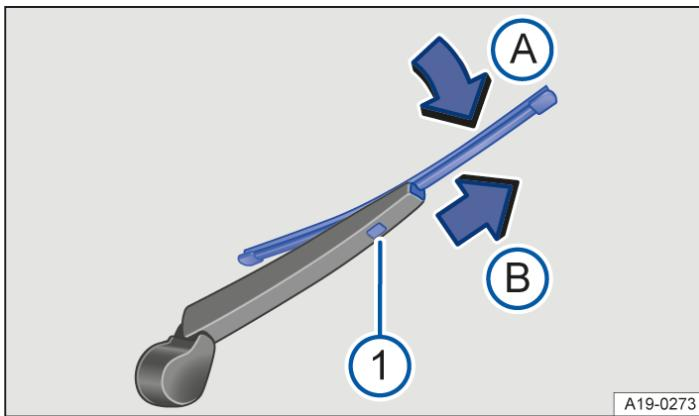

Fig. 2 Changing the wiper blade for the rear window.
3. Press and hold the release button → *Fig. 2* 1.
4. Tilt the wiper blade in the direction of the wiper arm → *Fig. 2* A and pull it off in the direction of the arrow B at the same time. You may need to use some force to do this.
5. Insert a new wiper blade with the same length and design onto the wiper arm against the direction of the arrow. Push it on until it engages → *Fig. 2* B. The wiper blade must be in folded-down position to do this → *Fig. 2* A.